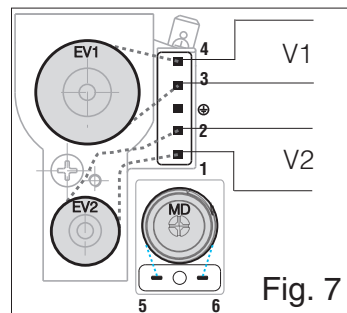

Fig. 7
- the connection diagram is given in Fig.7. The automatic shut-off valve EV1 shall be supplied connecting pins 3 and 4. The automatic shut-off valve EV2 shall be supplied connecting pins 1 and 2.